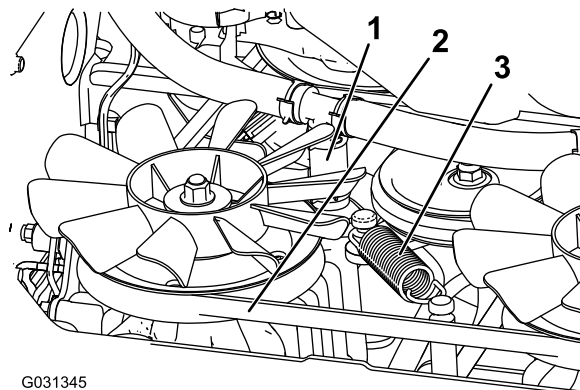

Figure 57
5. Remove the lower hydraulic hose (Figure 57).
6. Remove the tension spring (Figure 57).
7. Remove the deck belt from the clutch and clutch stop (Figure 57).